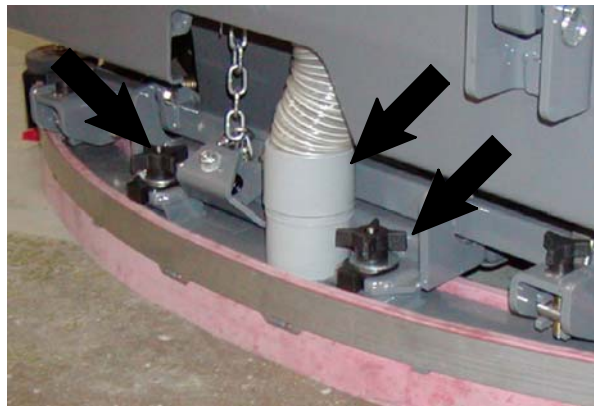

FIG. 1
2. Disconnect the vacuum hose from the squeegee and remove the squeegee from the machine. Set the squeegee and mounting knobs/hardware aside. Refer to Fig. 1.
7. Reinstall the squeegee onto the machine. Refer to Fig. 1